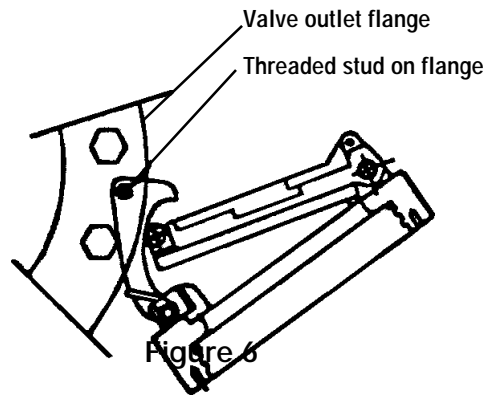

Figure 2
3. To clean check assemblies, locate the check arm opening stud on the outlet flange of the valve assembly, (6" and 8" only). Slide the arm over the stud with the check threads facing downward (Fig. 2). Tighten a $\frac{1}{4}$ " nut on stud to secure. Slowly pull the assembly outward to open check allowing exposure of the seat and clapper contact area for cleaning.